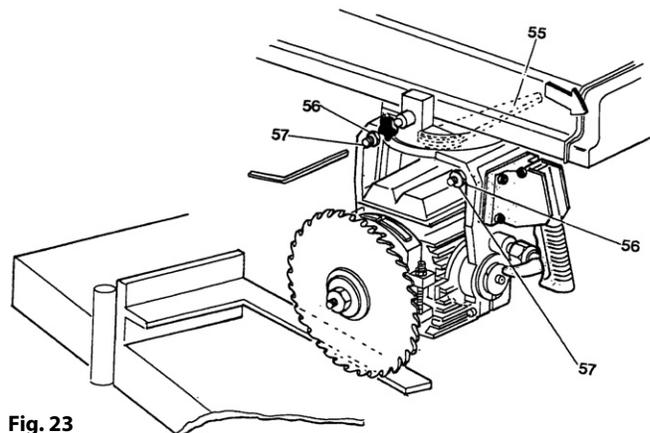

Fig. 23
If the cutting width came out wider than the thickness of the blade and the rear side of the cut marked, it would be due to teeth's kid. To eliminate this defect, place a square on the supporting bar (see fig.23) loosen the lever (55) and the nuts (56) and work on the adjusting screws (57) until perfect parallelism of the blade as regards to the square. Lock everything when this operation is over.